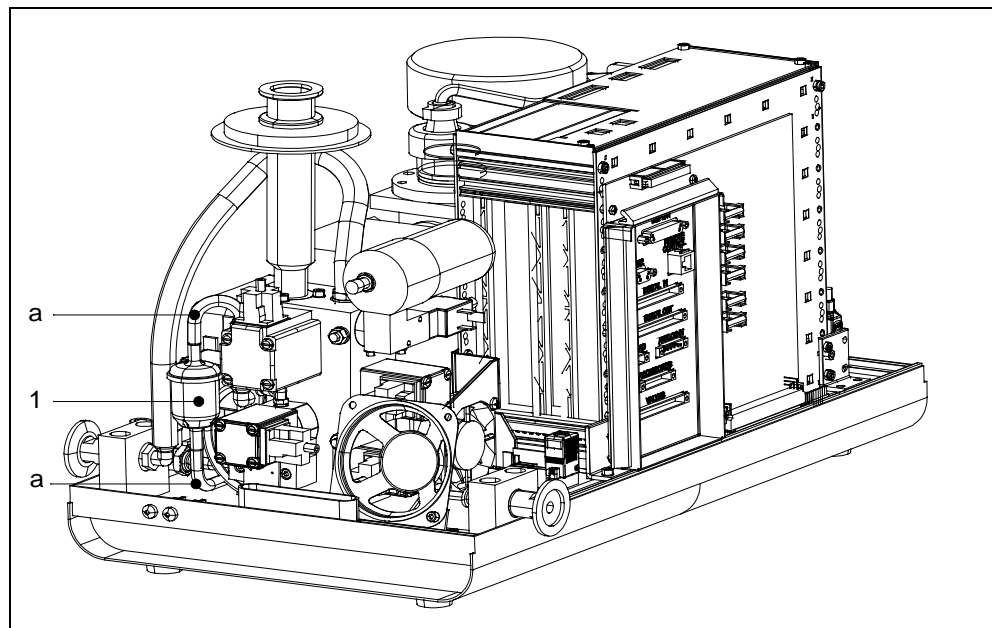

Fig. 7-8 Flood filter replacement in Modul1000
- To dismantle the vent filter, disconnect the hose connections of the filter from the quick-connecting couplings. By pressing on the outside ring on the quick connecting couplings, the hose can be pulled off. Please find the mounting positions in the following Fig. 7-8.